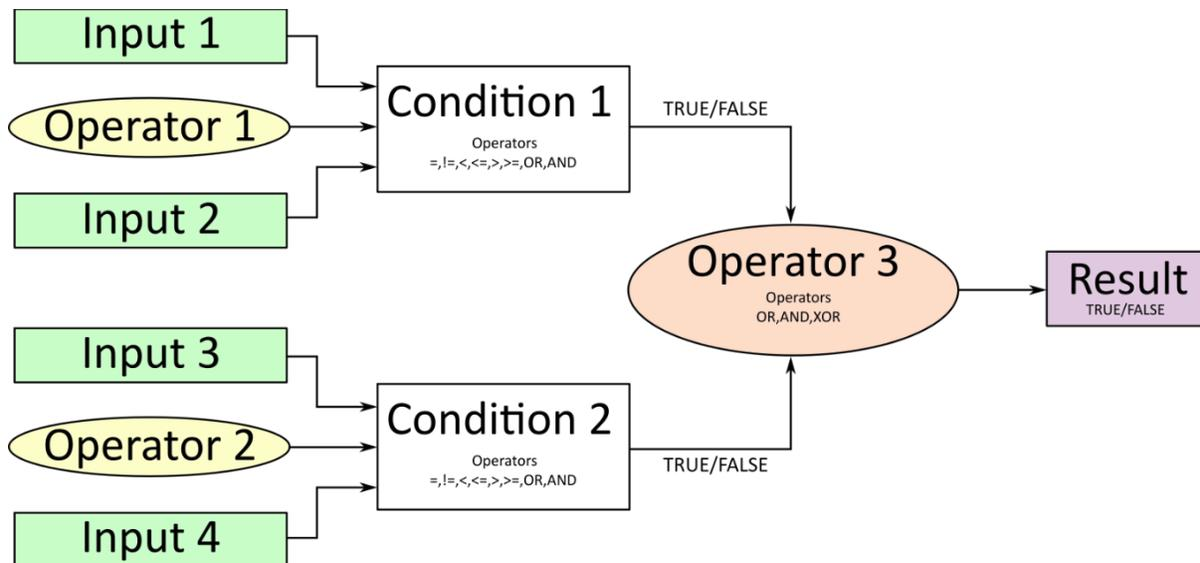

Figure 4 – Conditional Block Diagram
Conditional Logic Blocks compare up to four different input sources with different logical or relational operators. The result of each block can therefore only be true (1) or false (0). Figure 4 demonstrates the connections between all parameters.